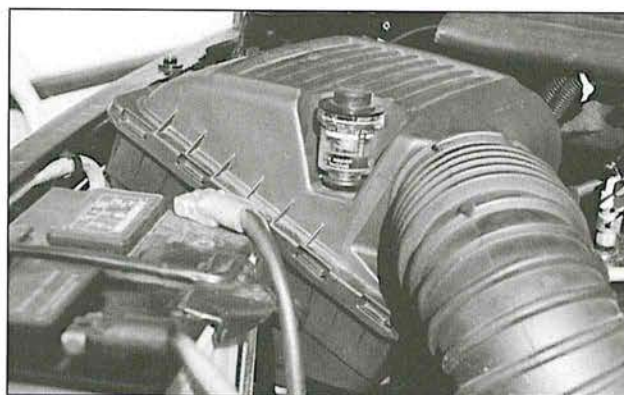

Fig. 2
- Remove the air filter housing and duct hose as an assembly (see Fig. 2). Gently lift air filter housing from the inner fender. The plastic connectors will remain in the air filter housing and the steel mounting studs will remain in the inner fender.